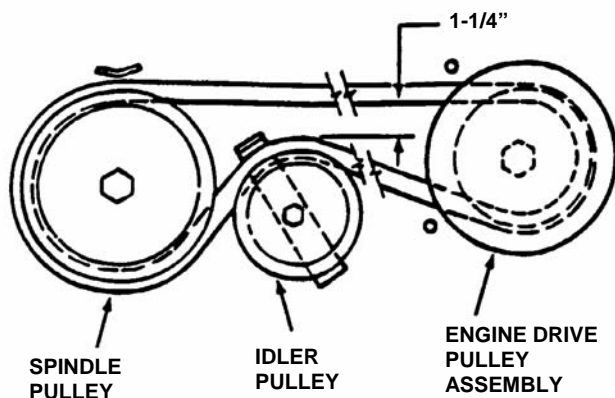

FIGURE 4.5
3. Place deck cutting height in the 3rd position. Measure the belt spacing between idler pulley and belt. The distance should measure 1-1/4" but no less than 1". See Figure 4.5.